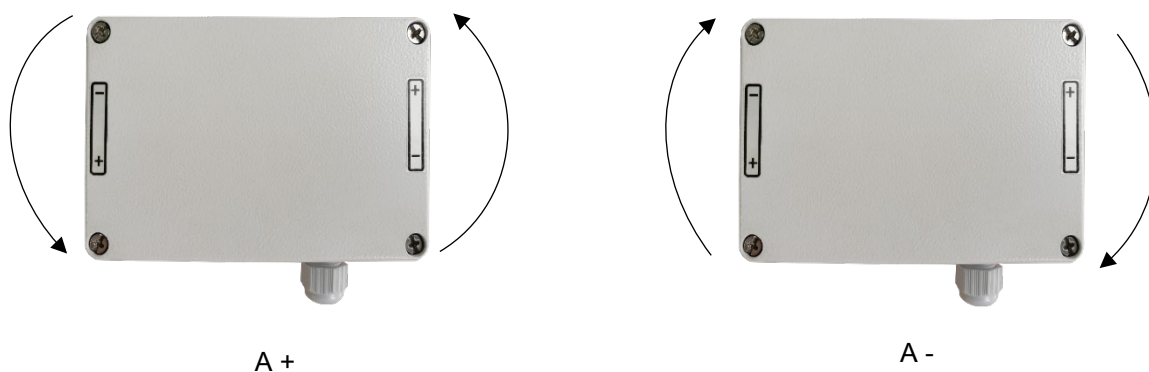

Figure 8 Sign Convention of tilt for EAN-93M tilt meter
- 3.1.3 Tilt the sensor towards +ve side (counter clockwise) on the swivel bracket provided (Figure 8), output of the sensor will increase in positive direction (+ve sign is marked on the right side of top of enclosure). Similarly, the output will decrease when sensor is tilted in - ve direction (clockwise).
Carefully orient the tilt sensor during installation. A (+) sign is on the top right side of the enclosure. If the enclosure is tilted counter clockwise then readings show an increase (with positive sign)- Figure 8 (left). If the enclosure tilts clockwise then readings show a decrease (with a negative sign)-Figure 8 (right).
Figure 8 below shows view from side and convention used for direction/output signal polarity. After the enclosure is fixed to the structure, the sensor is adjusted to the zero reading (initial). Subtracting the initial tilt reading from the subsequent tilt reading gives change in tilt of structure over a period of time.